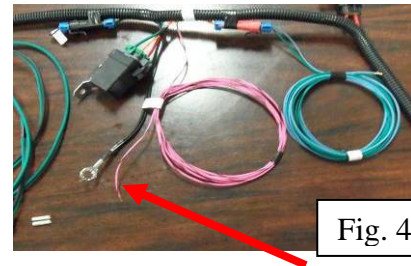

Fig. 4
6. The pink wire will be ran to the ignition wire of the vehicle if you want the fan to only run while the vehicle is on. If you want the fan to run anytime the vehicle is above the specified temperature (ignition off or on), then run the pink/black wire to your power source (Fig. 4).